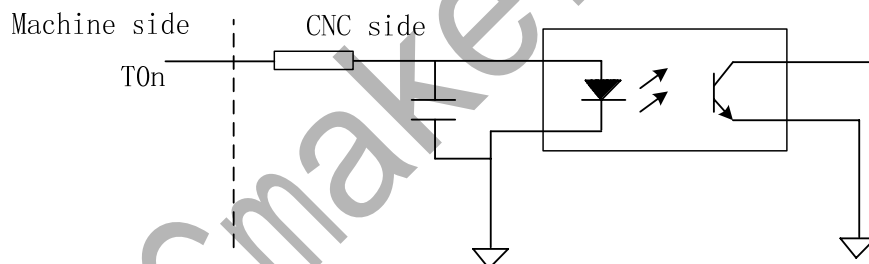

Fig. 2-35
1. The T01~T08, TCP signals input are employed with photocoupler, its interior circuit is shown in Fig. 2-35: